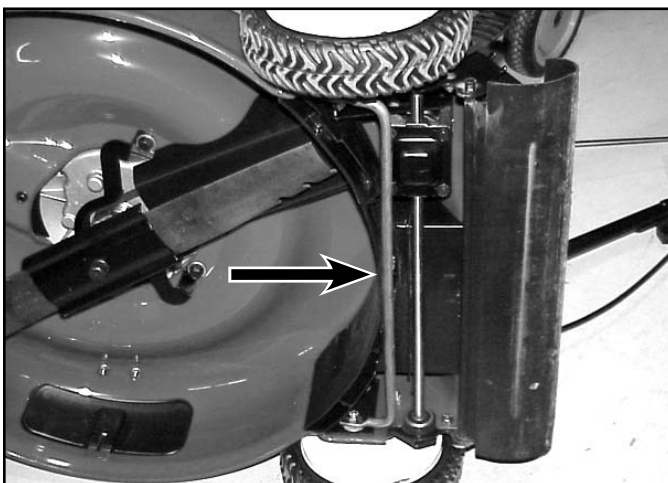

Fig 071
15. There is a cross brace underneath the mower that is held in place by two of the cap screws shown above (Fig. 071).